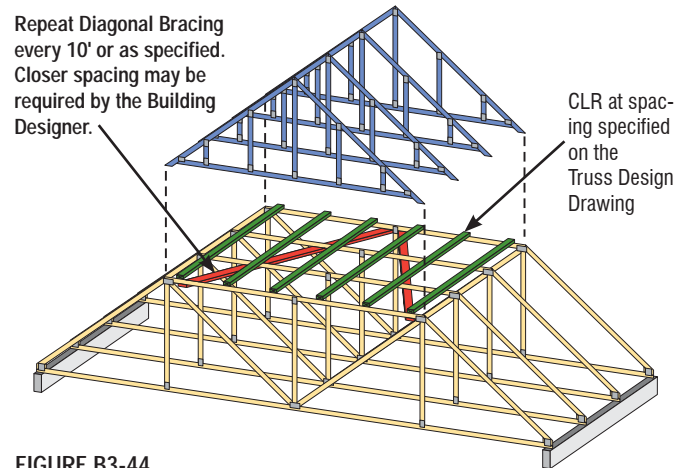

FIGURE B3-44
- Rows of 4x2 stress-graded lumber CLR and Diagonal Bracing (see Figure B3-44),